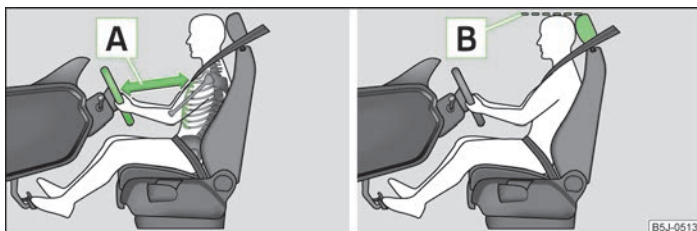

Fig. 96 The correct distance of the driver to the steering wheel/The correct head restraint adjustment
- Adjust the steering wheel so that the distance **A** » Fig. 96 between the steering wheel and your chest is at least 25 cm.
- Adjust the head restraint so that the top edge **B** » Fig. 96 on page 105 » page 105 of the head restraint is at the same level as the upper part of your head.